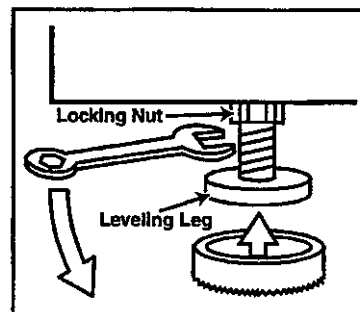

Figure 1-3
2. Tip washer slightly forward. Loosen rear leveling leg lock nuts. Tip washer back slightly to loosen front leveling leg lock nuts (Figure 1-3).
5. Install the rubber feet, found in the installation package, on all four (4) legs (*Figure 1-3*).